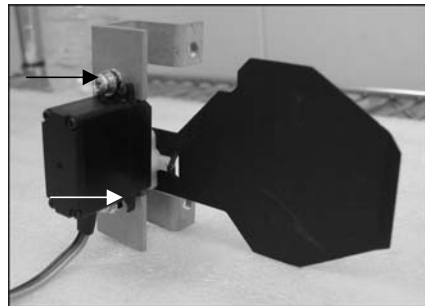

Figure 68. Separate Shutter from Mounting Bracket
5. Remove the two (2) screws securing the shutter assembly to the mounting bracket. (Figure 68.)